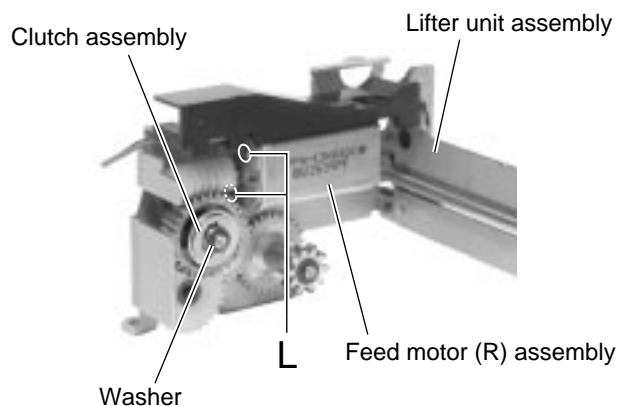

Fig.12
■ Removing the feed motor (R) (See Fig.12)